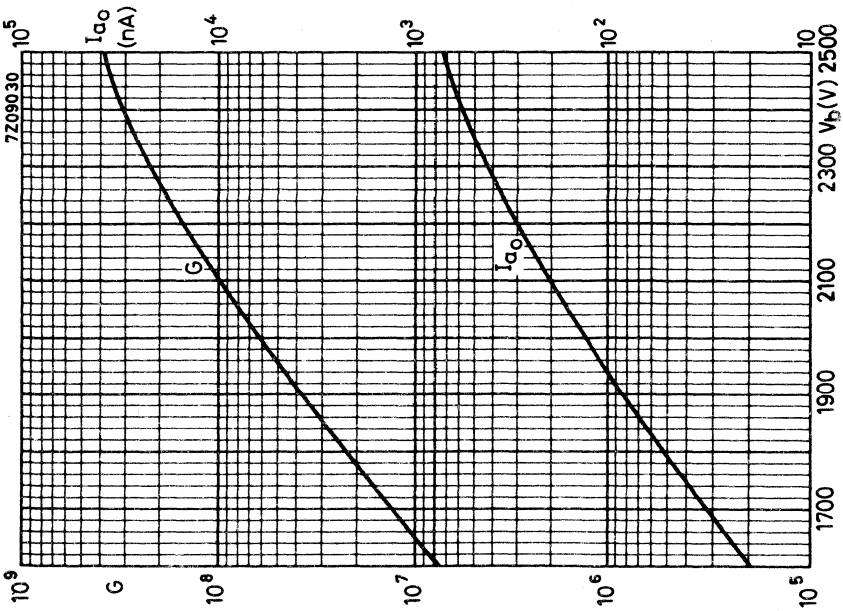

Fig. 4
- B. The multiplier system consists of 14 stages, providing a total current amplification of 10^8 at about 2100 V (see fig.4).